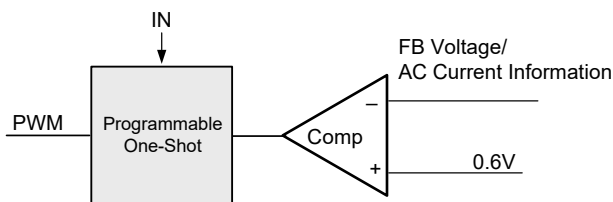

Figure 3. Simplified Control Schematic of AOZ2263NQi-11
The simplified control schematic is shown in Figure. 3. The high-side switch on-time is determined solely by a one-shot whose pulse width can be programmed by one external resistor and is inversely proportional to input voltage (IN). The one-shot is triggered when the internal 0.6V is higher than the combined information of FB voltage and the AC current information of inductor, which is processed and obtained through the sensed lower-side MOSFET current once it turns-on. The added AC current information can help the stability of constant-on time control even with pure ceramic output capacitors, which have very low ESR. The AC current information has no DC offset, which does not cause offset with output load change, which is fundamentally different from other V^2 constant-on time control schemes.